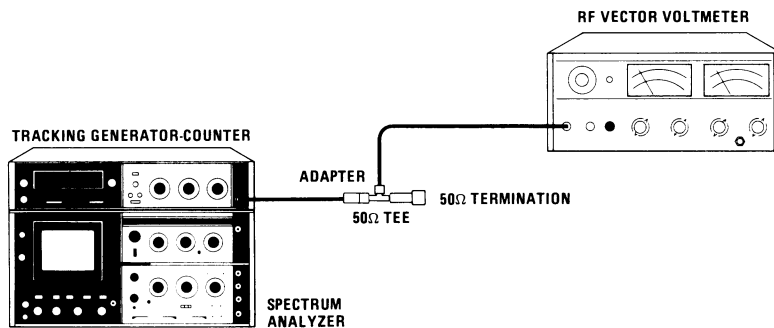

Figure 4-4. Output Impedance-SWR Test Setup
1. Connect the equipment as shown in Figure 4-4 and set the controls as follows:
3. Reconnect the 50-ohm termination to the 50-ohm tee as shown in Figure 4-4. Measure the RF output with the RF vector voltmeter. Record the reading: